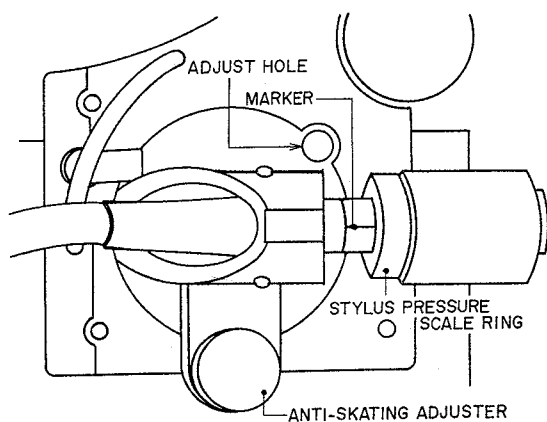
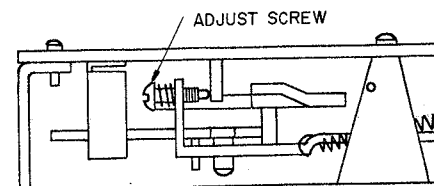

Fig. 13
Fig. 15
- Bring the tone arm toward the center of the turntable until the adjust screw is seen through the adjust hole located as in Fig. 13.
- For a 30 or 25 cm disk, adjust the adjust screw seen through the adjust hole (see Fig. 13) until the stylus is lifted up at an appropriate point in the lead-out groove. For a 17 cm disk, remove the bottom cabinet, and similarly adjust the adjust screw shown in Fig. 15.